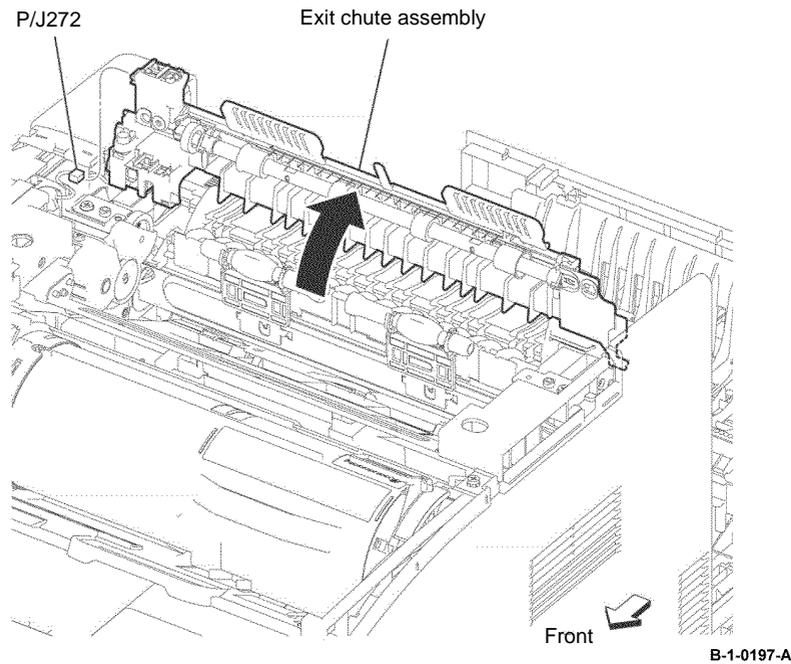

Figure 1 Full stack sensor disconnect
- Remove two screws (silver, M3, 6mm) that fix the exit chute assembly to the printer. Lift the exit chute assembly in the arrowed direction, then disconnect P/J272 from the full stack sensor, Figure 1.